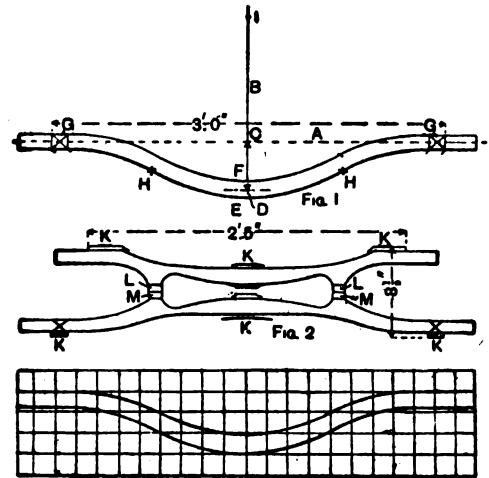

Fig. 3
**Making Typewriter Inks.**—One of the most popular recipes for ink for typewriter ribbons is as follows. Melt some petrolatum, having a high boiling point, on a water bath. Petrolatum is a soft hydrocarbon obtained from the residues left after the distillation of lighter oils from crude petroleum, or it may be deposited by the latter on standing; its commoner name is vaseline. Incorporate as much lampblack or powdered dropblack as the petrolatum will take up without becoming granular. When the mixture is partly cool, dissolve it, a little at a time, in a mixture of equal parts of petroleum, benzine, and rectified oil of turpentine. Regulate the quantity of the latter solvents to produce a solution of the consistency of fresh oil paint. Try on one end of the ribbon and, if too thin, add wax; if too faint, add colour; if too hard, add vaseline. Apply to the ribbon and brush off the excess. Many typewriter inks have glycerine, a very undesirable ingredient, as the vehicle for the colouring matter. The following recipes are typical of the composition of such inks. (1) Dissolve  $\frac{1}{2}$  oz. of aniline dye in 4 oz. of glycerine, and add 2 oz. of alcohol and 2 oz. of water. (2) Dissolve 1 part (by weight) of powdered aniline dye in 6 parts of glycerine, and add 3 parts of soft soap. Warm until the soap dissolves and well mix. (3) Dissolve  $\frac{1}{2}$  oz. of aniline dye in 15 fl. oz. of alcohol, and add 15 fl. oz. of glycerine. (4) A good ink is made by dissolving 1 part of aniline dye (soluble in oil) in 6 or 8 parts of oil of cloves; gentle heat assists the solution. The aniline dye in these four recipes may be of any suitable colour; black and violet are perhaps the most serviceable. Another method of making a black ink is to grind 1 part of gas black with 5 parts of oil of cloves. All inks containing aniline colouring matter and glycerine are copying inks. Two other recipes for copying inks are here given. (1) Grind 1 part (by weight) of suitable aniline colouring matter with 6 parts of glycerine. (2) Dissolve, by the aid of heat, 1 oz. of transparent soap in a mixture of 4 fl. oz. of glycerine and 12 fl. oz. of water; mix with a solution of a sufficient quantity of aniline dye in 24 fl. oz. of alcohol. If the ink is too thin, add soap. The unsatisfactory results given by home-made typewriter inks appear to be caused by the use of glycerine as one of the ingredients, according to Prof. Shuttleworth. The hygroscopic properties of glycerine make it an undesirable ingredient, and the addition of glucose, soap, alcohol, or water does not improve matters. Vaseline, with or without the addition of wax, gives better results, but its consistency is appreciably affected by temperature. Prof. Shuttleworth proposes castor oil as a more suitable medium; the colouring matter may be any of the salts of the aniline series, and of these methyl violet is practically soluble in the oil mentioned. In preparing the ink, triturate the powdered colour with the oil in the mortar, the work being facilitated by the addition of a very little alcohol. A suitable formula for such an ink is that of Higgins. Castor oil, 4 oz.; carbolic acid, 1 oz.; oil of cassia, 1 oz.; suitable aniline colour, 1 oz. Printing inks may be modified for service in the typewriter by adding vaseline to make them non-drying on the ribbon; if it is found that they are too soft, add wax also.
**Making Triad Pictures.** A triad picture is simply three pictures in one; from a standpoint exactly in front of it a certain view, represented by X (Fig. 1), is seen. From a point a little to the right-hand side is seen a totally different view, represented by Y (Fig. 2), while movement to the left discloses a third picture Z (Fig. 3). The construction is very simple. First get three pictures and select the central one. For the purpose of description, suppose it to be 13in. wide; the height is
and prominences. The antlers can be mounted by one of the following methods. Fig. 1 shows how, by cutting a piece off the back of the antler, it may be fixed to the mount by means of a screw passing through a hole previously drilled in the antler. Fig. 2 shows an artificial forehead of wood, with short processes or projections upon which the antlers rest, being screwed from the back. Another method is to drill a large hole lengthwise into the antler from the base, and in this hole to place a dowel (see Fig. 3), by means of which the antler may be fixed as in Figs. 1 or 2. Designs of shields or mounts are shown by Figs. 4 to 7. To make these, double a piece of paper, draw half the shield as shown, and cut out through both pieces of paper. Flatten out the paper and mark round on the wood with a pencil. The mounts can be made of oak, mahogany, or walnut, the first-named for preference. Ebony or ebonised wood is rather too gloomy, though often used.
for the small member on the inner edge. Fig. 3 shows how the moulding may be worked on the edge of a shelf bracket. The router can be bought at a toolshop, or made with a piece of hardwood and a piece of  $\frac{1}{4}$ -in. thick steel. B (Fig. 2) and A (Fig. 3) show the cutter. The fence C (Fig. 3) may be either of brass or iron slotted so as to be adjusted.
wheel plate, and M the transom plate; the beds are left straight in the centre until the top and bottom plates are fitted, these being screwed on temporarily. The beds must be swept out as shown, care being taken to leave intact the bearings for the wheel plate and transom plate. In testing a carriage for truth, the tools used generally are a straightedge, square board, and wax line. If these do not give a sufficiently exact result, draw a diagram as Fig. 3, setting the squares off perfectly true, when any error can be quickly seen.